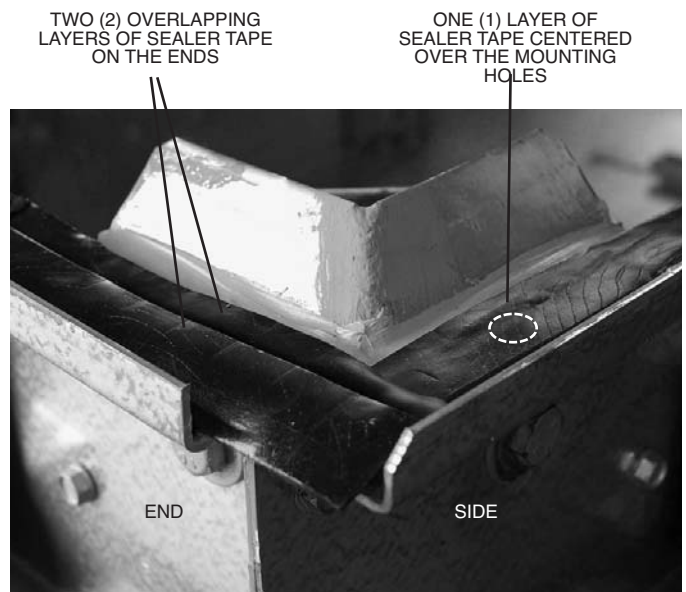

Figure 8 – Sealer Tape on Flange of Casing Section
Once the solar panels are attached to the brackets and connected to the plugs, the top flanges of the casing section should be wiped down to removed any dirt or moisture. Sealer tape should be placed over the mounting hole centerline on the side flanges. **Apply two (2) strips of sealer tape, one partially overlapping the other, on the end flanges (flanges without bolt holes).** The sealer tape should overlap in the corners as shown in figure 8. Do not splice the sealer tape along the end flanges and preferably not on the side flanges if it can be avoided. **Always remove the paper backing from the sealer tape.**